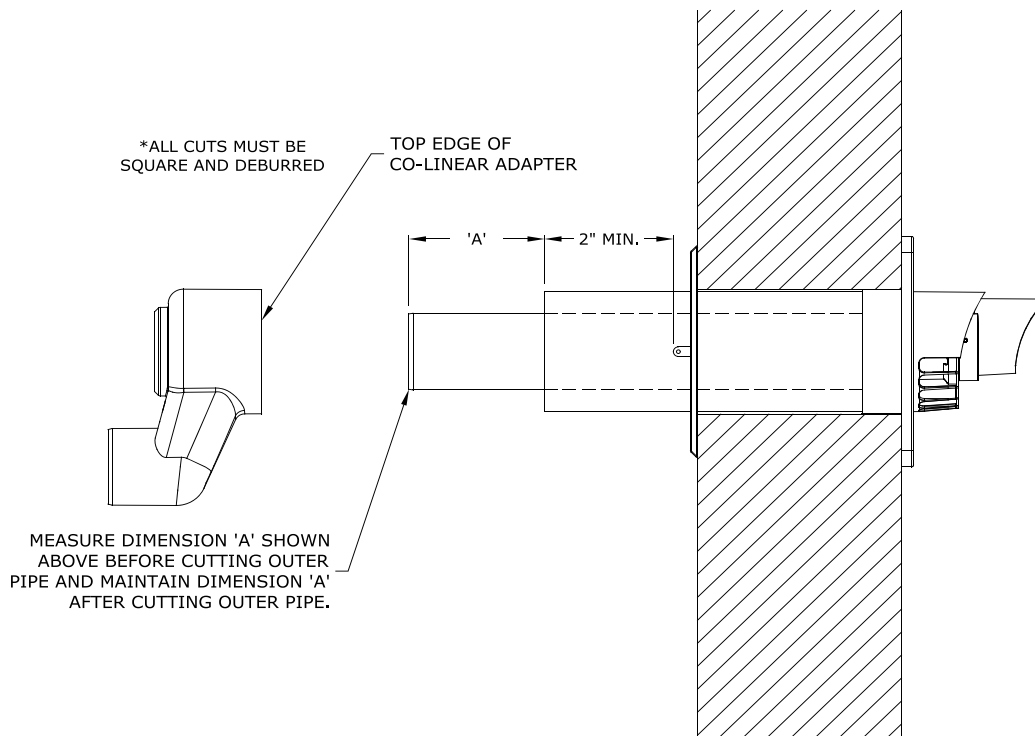

Figure 7.38: Cutting DuraVent PolyPro Horizontal Concentric Vent Terminal
- b. If desired, the terminal can be shortened. Mark the desired location of the cut on the outer pipe no closer than 2" from the edge of the tab on the interior wall plate. Prior to cutting outer pipe measure dimension 'A' of the inner pipe as shown in Figure 7.38 and maintain this dimension after cutting the outer pipe. All cuts must be square and de-burred.